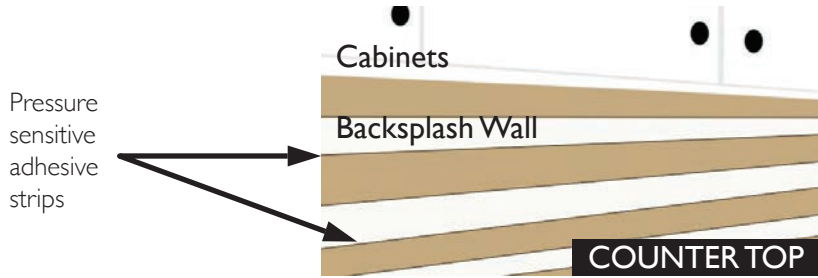

Figure 5
1. If you haven't done so already, turn off any electrical outlet or switches that protrude from the backsplash wall and the breaker and disassemble them. Either paint the wall white or apply our white reflective backer laminate by using a few strips of our pressure sensitive adhesive to the wall at the top, middle and bottom (**See figure 5**).